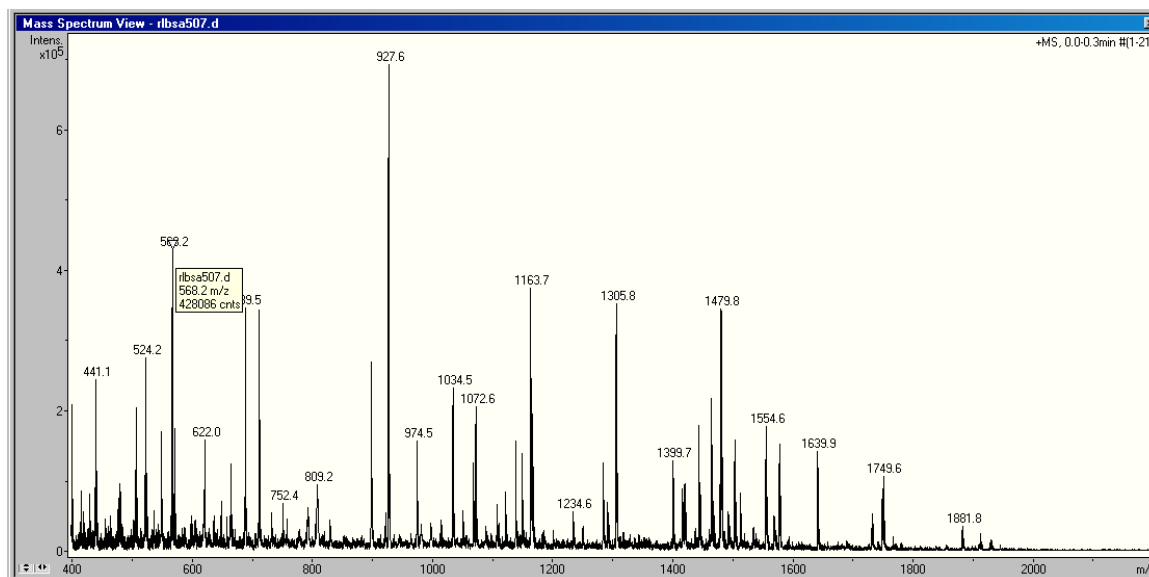

Figure 78 5 femtomole BSA MS only spectrum
- 10 Compare the MS-only spectrum for 5 femtomole BSA digest to Figure 78. They should be similar. If not, refer to Chapter 7, “Troubleshooting” in the *PDF-MALDI User’s Guide*.